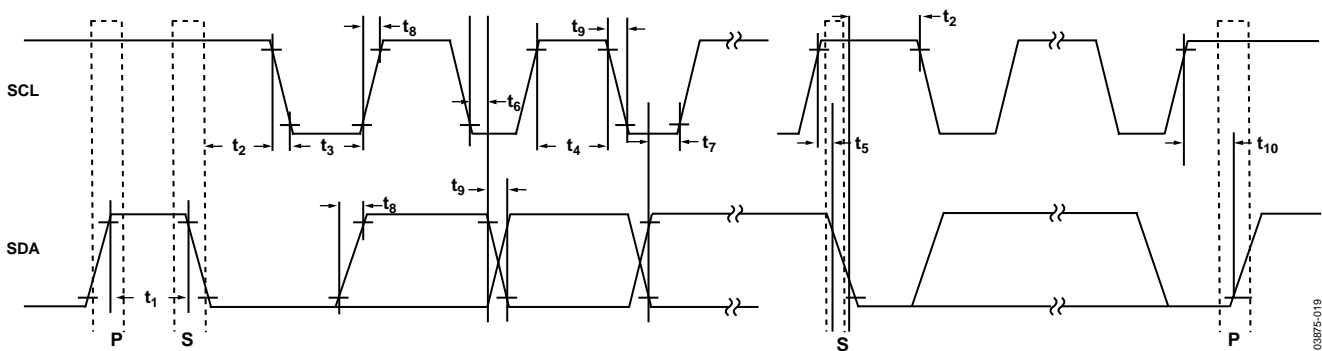
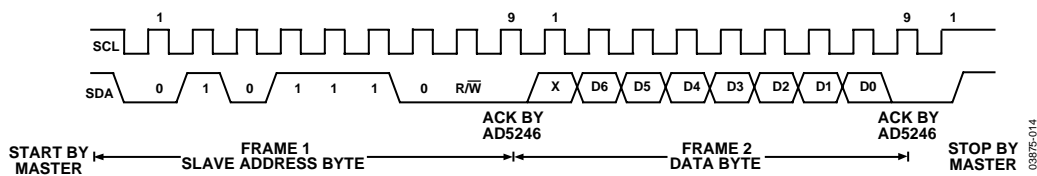
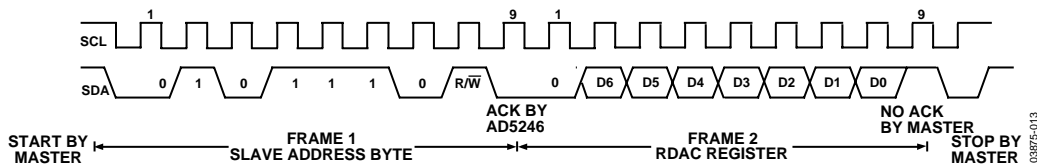

Figure 26. I²C Interface, Detailed Timing Diagram
Figure 27. Writing to the RDAC Register
Figure 28. Reading from the RDAC Register
³ See timing diagrams (Figure 26, Figure 27, and Figure 28) for locations of measured values.
1. The master initiates data transfer by establishing a START condition, which is when a high-to-low transition on the SDA line occurs while SCL is high (see Figure 27). The following byte is the slave address byte, which consists of the 7-bit slave address followed by an $\overline{\text{R/W}}$ bit (this bit determines whether data will be read from or written to the slave device).
3. In read mode, after acknowledgment of the slave address byte, data is received over the serial bus in sequences of nine clock pulses (a slight difference from the write mode where eight data bits are followed by an acknowledge bit). Similarly, the transitions on the SDA line must occur during the low period of SCL and remain stable during the high period of SCL (see Figure 28).
4. When all data bits have been read or written, a STOP condition is established by the master. A STOP condition is defined as a low-to-high transition on the SDA line while SCL is high. In write mode, the master pulls the SDA line high during the tenth clock pulse to establish a STOP condition (see Figure 27). In read mode, the master issues a No Acknowledge for the ninth clock pulse (that is, the SDA line remains high). The master then brings the SDA line low before the tenth clock pulse, which goes high to establish a STOP condition (see Figure 28).